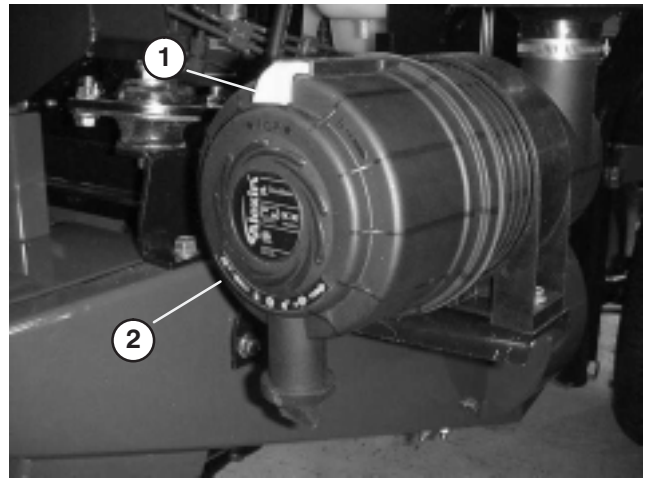

Figure 41
1. Pull latch outward and rotate air cleaner cover counter-clockwise. Remove cover from body (Fig. 41). Clean inside of air cleaner cover.